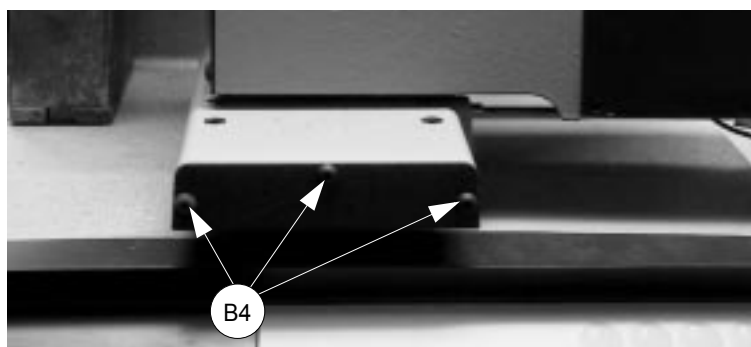

Fig. 57
- 5) remove the front cover on the (X axis) lower carriage (fig. 57) by unscrewing the 3 (B4) screws.